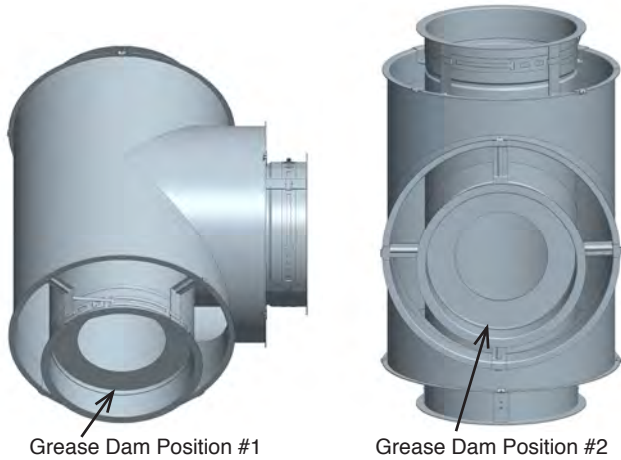

Figure 93a - Grease Dam Position #1 **Figure 93b - Grease Dam Position #2**
To comply with the NFPA 96 requirements, the T90D# is comprised of a T90 equipped with a 1 1/2" wide circular "donut" welded in place (serve as a dam) at any access port and must be closed with a Tee Cap (TC) or a No Tool Tee Cap (NTTC). The location of the access port in the Tee is dependent on the orientation of the tee in the final installation. Access port location is coded as shown in Figure 93a and Figure 93b for the two options.